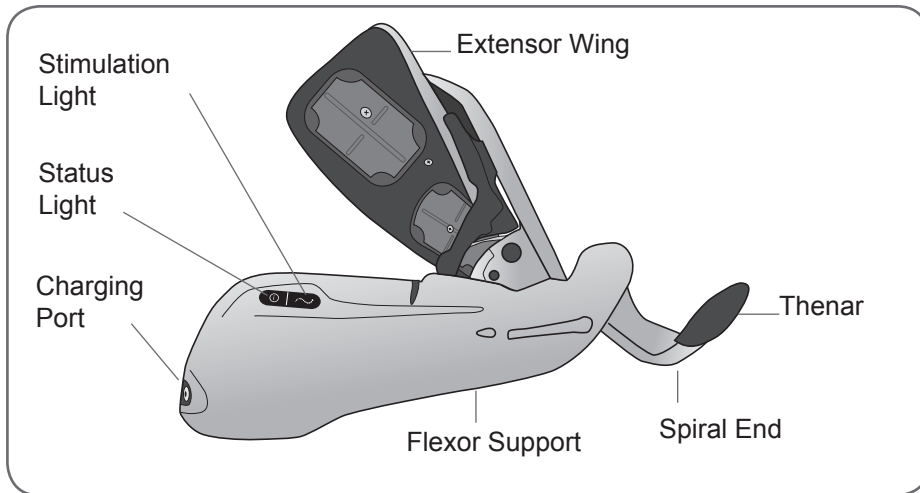

Figure 5-2: Orthosis features.
**The H200 Wireless Orthosis features: See Figure 5-2.**